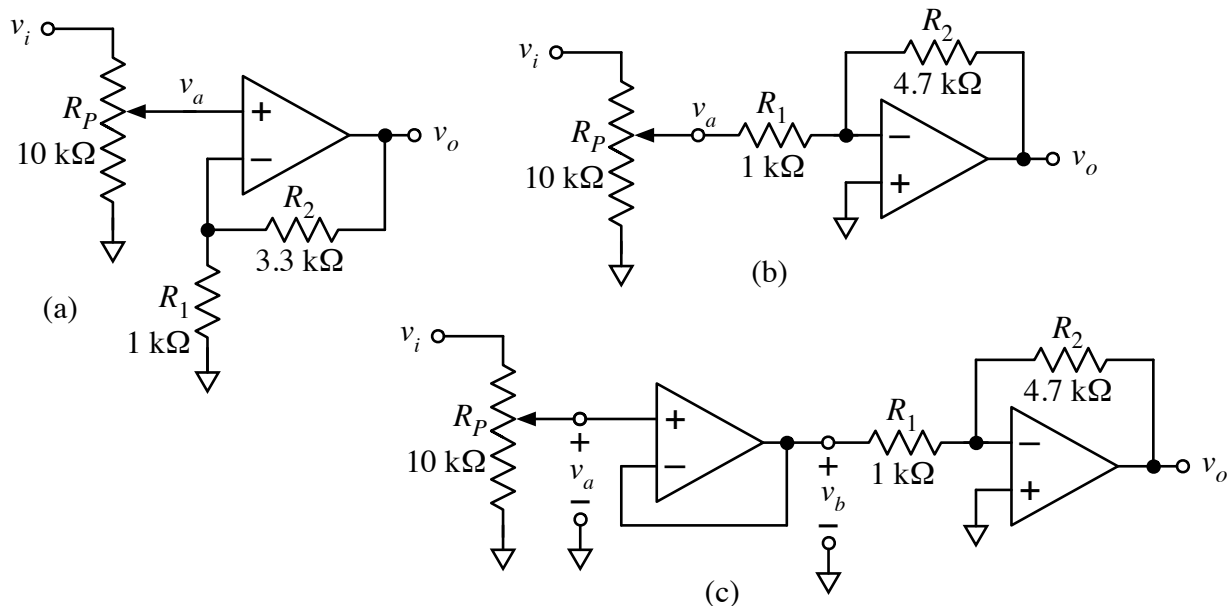

Figure 3. Inverting and non-inverting amps with potentiometers as signal-level adjusters.
- A non-inverting version is shown in Fig. 3(a). The circuit is a combination of the non-inverting amp used in Part A and the simple voltage divider of Part B. Apply a sinusoid with an amplitude of 1V and frequency of 1 kHz at the input to v_i . Prior to connecting the circuits, set the potentiometer so that v_a has an amplitude of 0.5 V ($= 0.353 V_{\text{RMS}}$ if measuring with the multimeter). Then, connect the circuits together, and measure v_i , v_a , and v_o . Show that everything is working as expected by calculating the voltage divider ratio, v_a/v_i , and the gain of the amp v_o/v_a . Observe the input and output together on the oscilloscope and save a copy for the report. Vary the potentiometer setting to see how the potentiometer controls the output amplitude. The circuit works nicely because there is no current drawn at the non-inverting input and the voltage divider is not ‘loaded’.